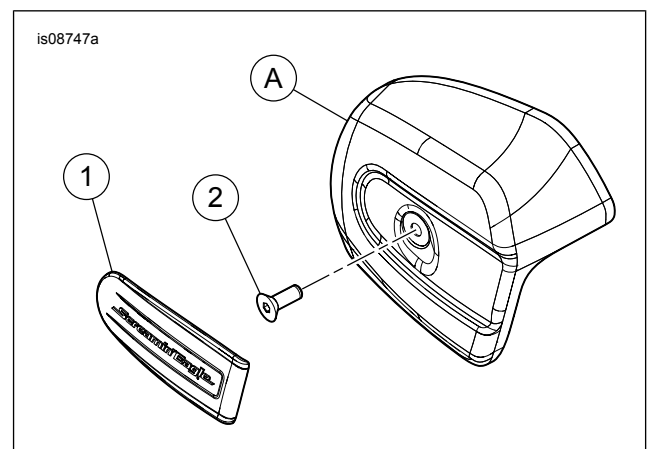

Figure 1. Screamin' Eagle Air Cleaner Medallion
See Figure 1 and Table 1.
2. See Figure 1 and Table 1. Remove air cleaner cover.